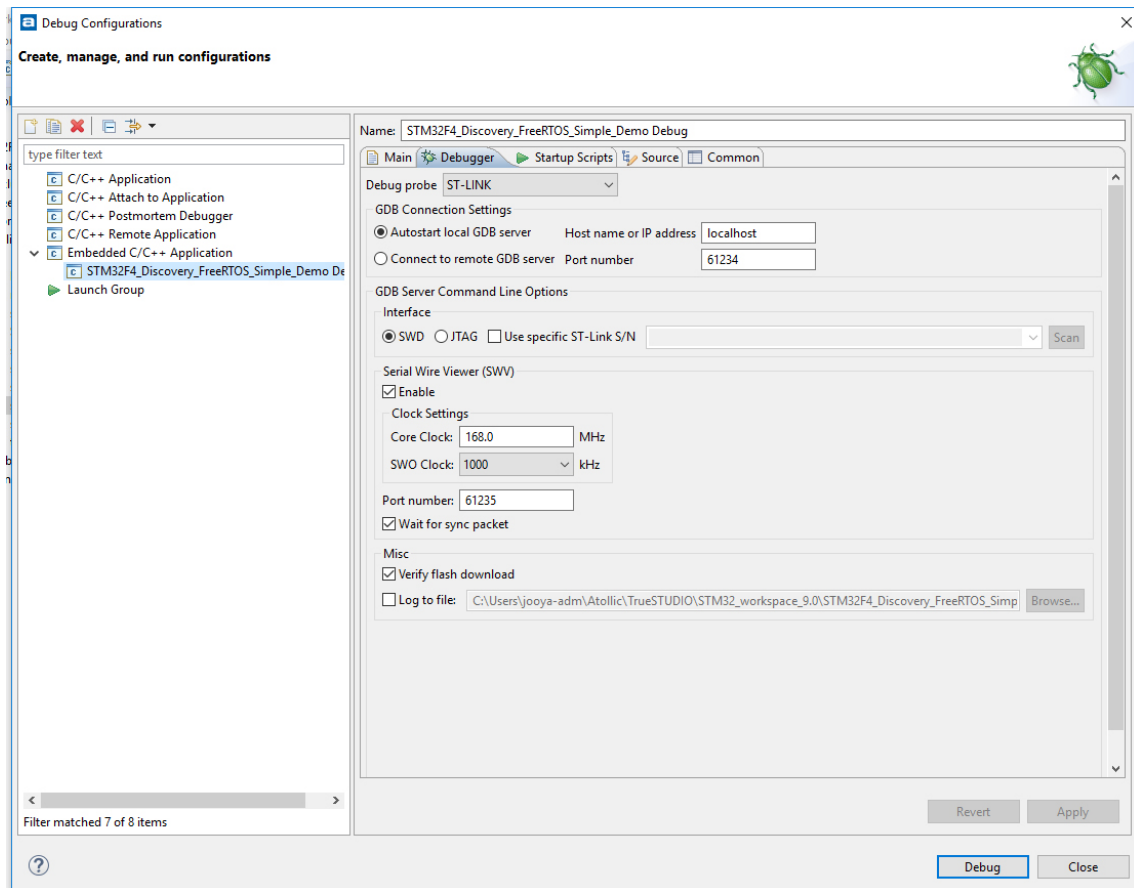

Figure 4. Enabling SWV.
17. Go to Debugger tab and check Enable under **Serial Wire Viewer (SWV)** as in Figure4.